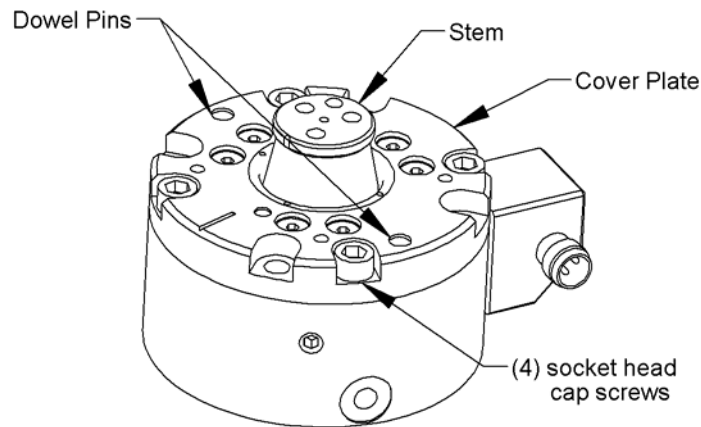

Figure 5.3—Disassembly of Cover Plate
1. Remove the four (4) socket head cap screws securing the Cover Plate assembly to the Body using an M3 hex key (see Figure 5.3).